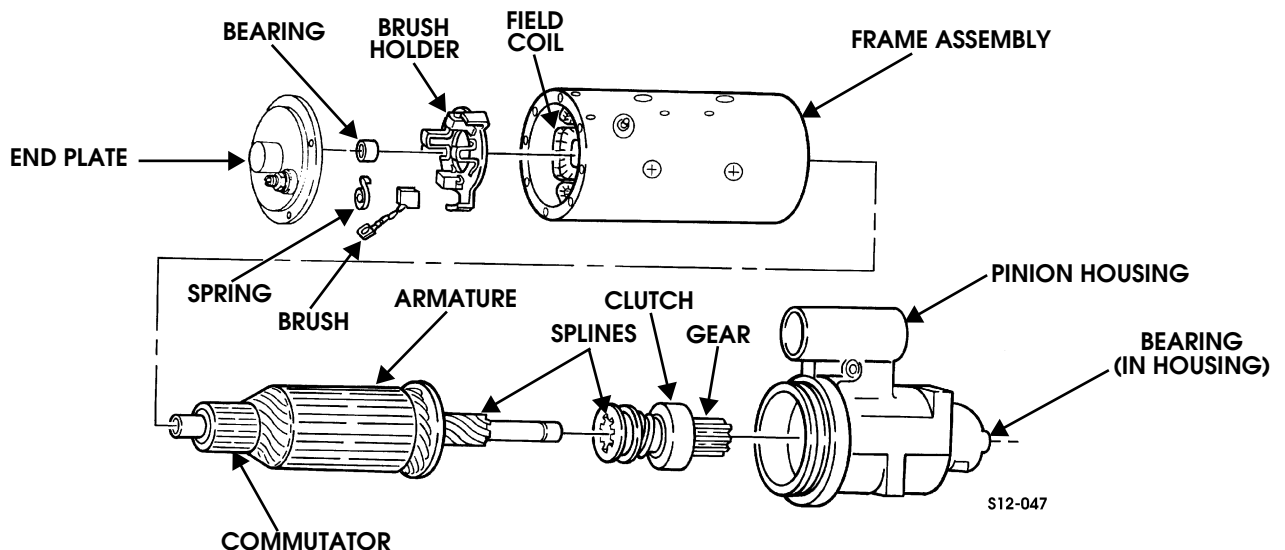

Figure 12-63: Starter Components
Inspect clutch for broken spring, damaged gear or splines, and non-lockup. Replace clutch if damaged (Figure 12-63).
Inspect bearings in head end and pinion housing for cracks, roughness, galling, or damage. Replace bearings if defective (Figure 12-63).
10. Apply chassis grease to armature shaft, shift lever studs, groove of clutch, and inside diameter of end plate (Figure 12-63).